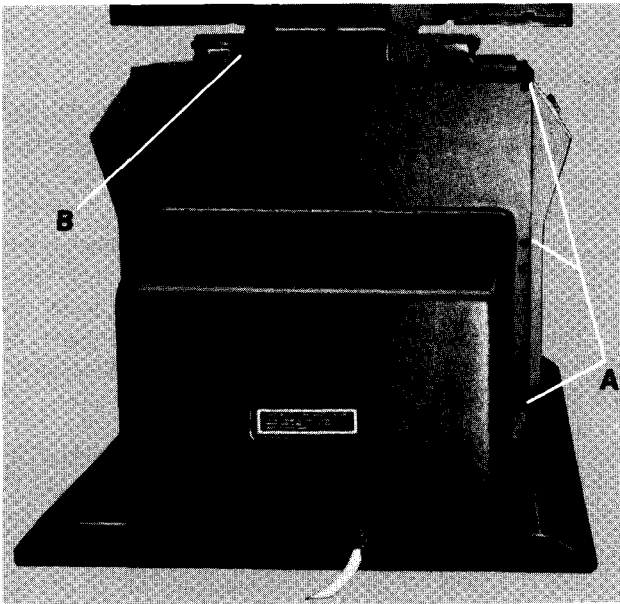

Fig. 13
- 1) Remove motor cover by removing (6) screws, Item A, Fig. 13, and pulling bottom of cover out until top of cover disengages from retaining channel.
- 2) Replace motor cover by inserting top of cover into retaining channel, Item B, Fig. 13, and pushing bottom of cover in until top is fully engaged in channel. Align holes and install (6) # 10 x 3/8" screws, Item A, Fig. 13.